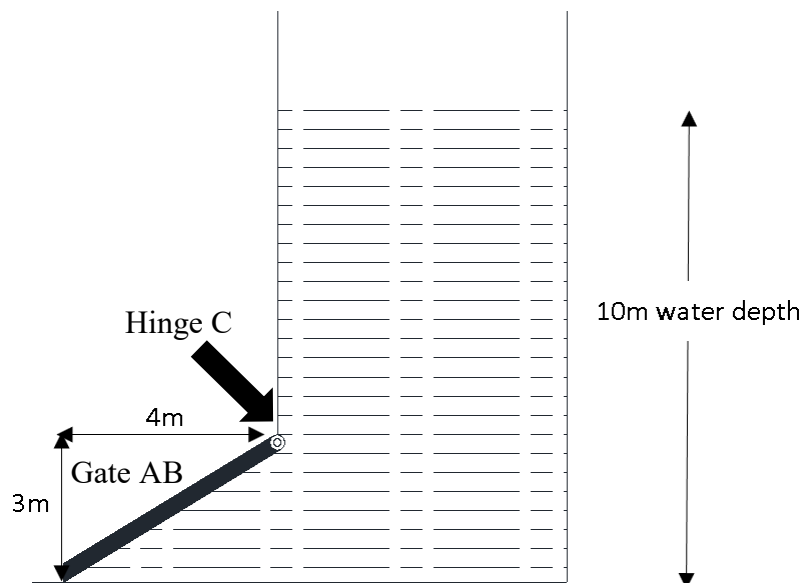

Figure 1 (b)
*[Sila pastikan bahawa kertas peperiksaan ini mengandungi LIMA (5) muka surat yang bercetak sebelum anda memulakan peperiksaan ini.]*
**Instructions:** Answer ALL **FIVE (5)** questions.
**[Arahan:** Jawab **SEMUA LIMA (5)** soalan]
- (b) The gate AB is used to stop water flow out from reservoir Figure 1 (b) shows the water reservoir with inclined steel gate AB. The steel gate AB is hooked at hinge C as shown in Figure 1 (b). Calculate minimum volume of steel gate AB to ensure no water flows out from the reservoir. Take water density = 1000 kg/m3, the density of steel gate = 8000 kg/m3. Use width of the gate AB, (b) = 1m.